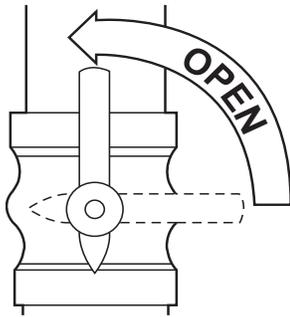

Fig. 15 – Open Valve
- Open the external manual gas valve (see Fig. 15).